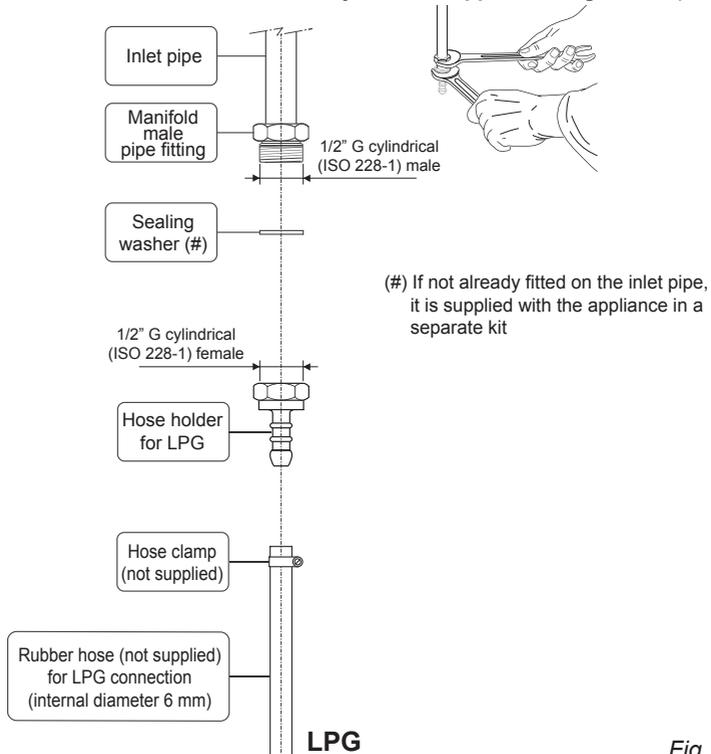

Fig. 8.2
1. If not already fitted, fit the LPG hose holder on the inlet pipe, making sure that you place the sealing washer between them (as shown in Fig. 8.2).
- use two spanners when fitting the hose holder (Fig. 8.2).